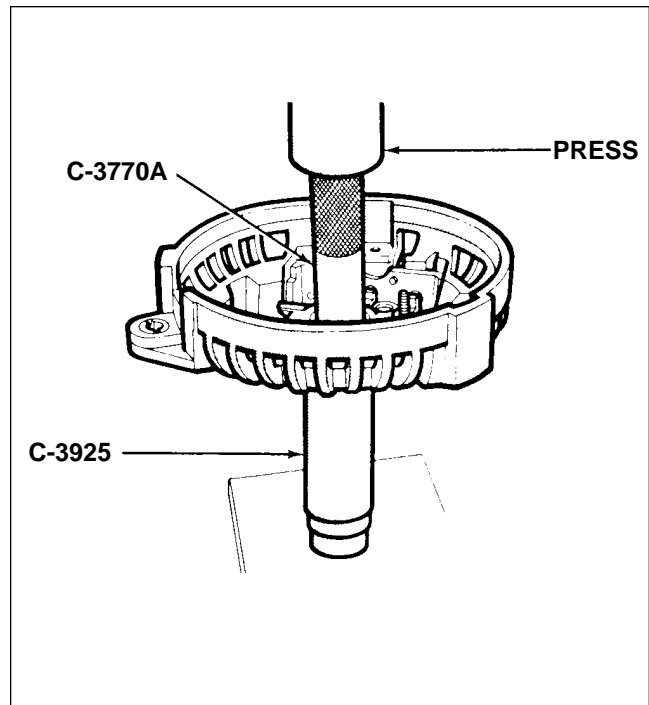

Figure 24-29. Removal of Chrysler Alternator Rectifier End Shield Bearing
- f. Needle bearing in rectifier end shield is a press fit. If necessary to remove rectifier end shield needle bearing, protect end shield by supporting shield with tool C-3925 when pressing the bearing out with tool C-3770A. (Refer to figure 24-29.)